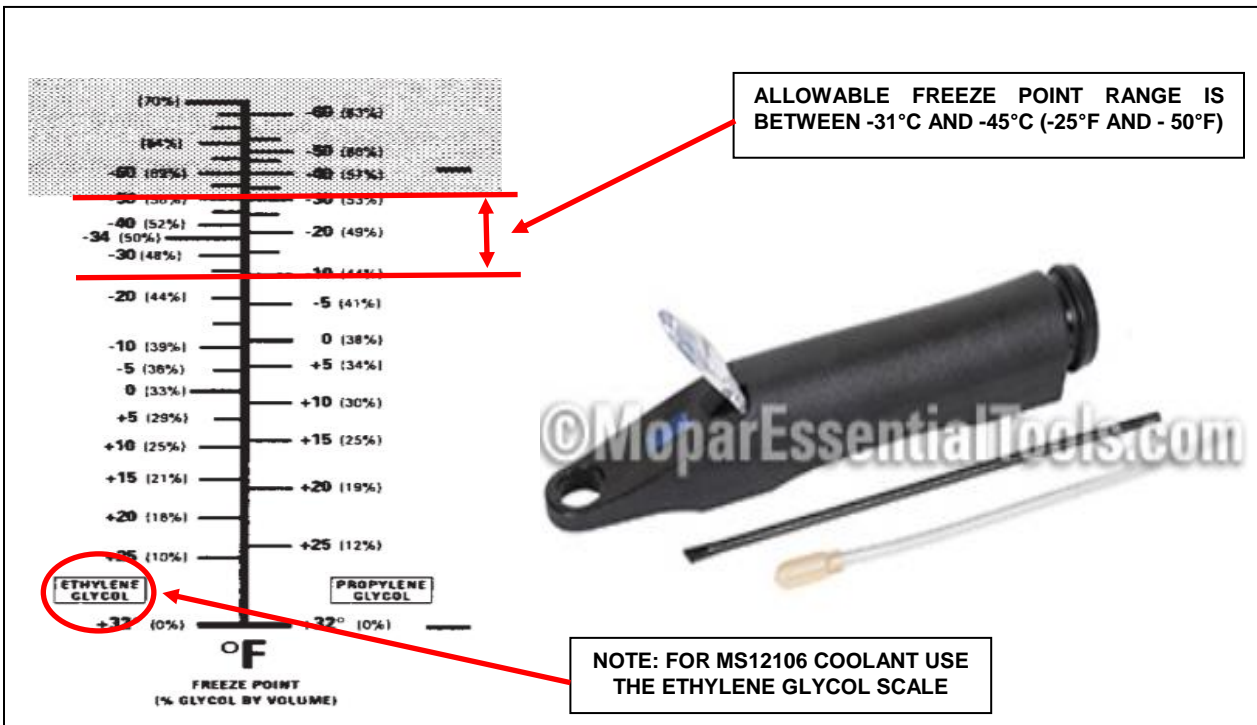

Figure 11 - Refractometer 8286 or Equivalent
- a. Using Refractometer 8286 or equivalent, following the manufacturer’s instructions, test the coolant freeze point (Figure 11).